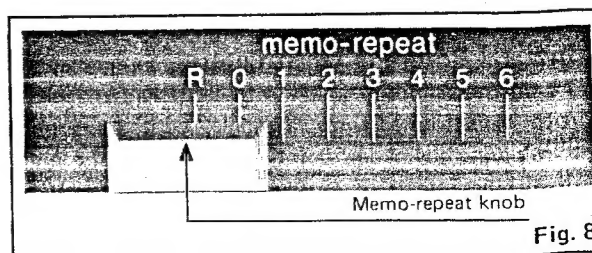

Fig. 8
1. Set the "memo-repeat" knob to the desired number of times you wish to play. (See Fig. 8.) "R" position enables you to repeat play continuously.